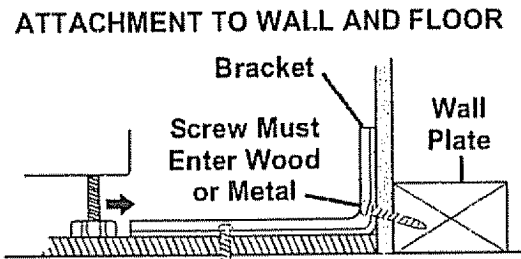

Fig. 2
2. **Wall:** Drill an angled $\frac{1}{8}$ " pilot hole (as shown in Fig. 2) in the center of each pre-marked wall hole position (a nail or awl may be used if a drill is not available)
- B. Mount the **ANTI-TIP** bracket with the 4 screws provided as illustrated in Fig. 2